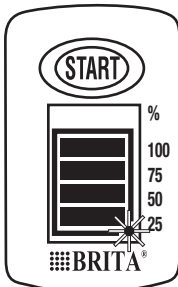

Figure 3
- Press and hold the Start button until 4 bars appear on the display and flash twice. The Memo is now set. The flashing dot in the corner of the display indicates that the Memo is working. (See figure 3).